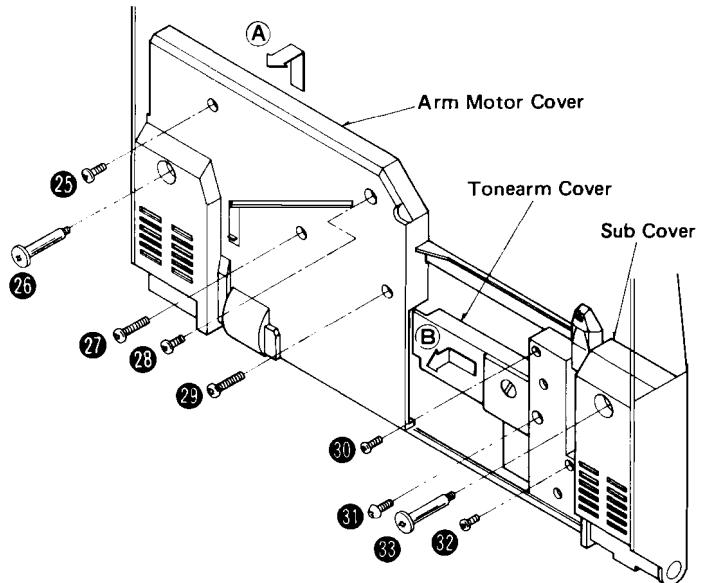

Fig. 11
2. Remove the 5 setscrews (Fig. 11: 25 ~ 29), and the arm motor cover can be removed in the direction of the arrow (A).
2. Remove the 3 setscrews (Fig. 11: 30 ~ 32), and the tonearm cover can be removed in the direction of the arrow (B).
3. Remove the sub cover setscrew (Fig. 11: 33) and the sub cover.